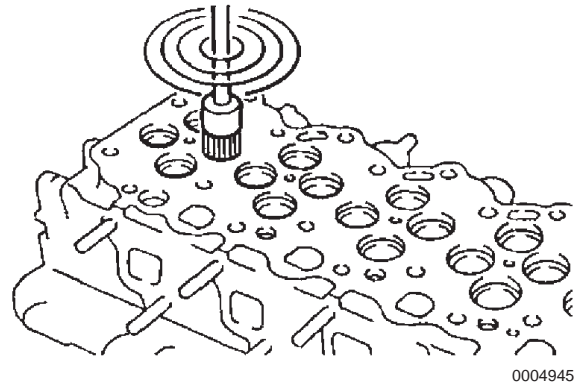

Figure 5-20
5. Remove all carbon deposits from the intake and exhaust valve seats, using a wire brush (**Figure 5-20**). **NOTICE:** AVOID damaging the valve seat surfaces during cleaning.